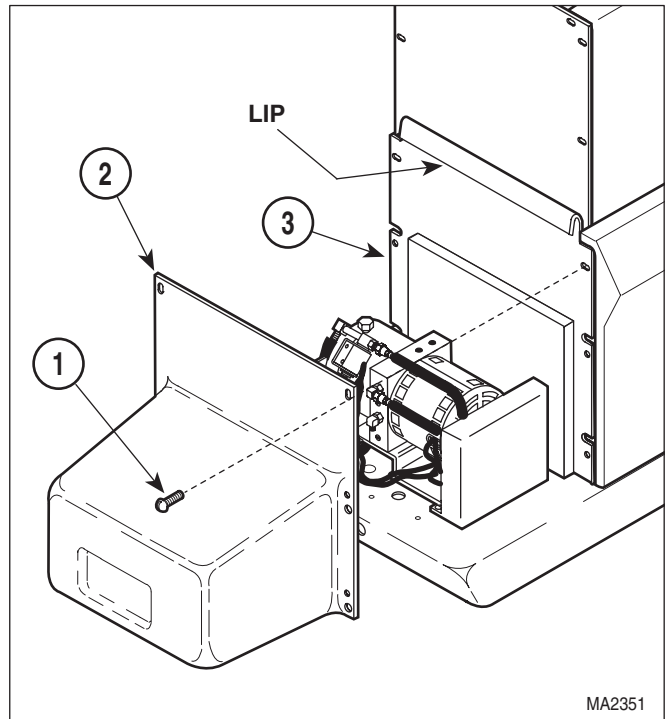

Figure 4-1. Motor Cover Assembly Removal / Installation
- (2) Remove six screws (1, Figure 4-1) and motor cover assembly (2) from back outer shroud (3).